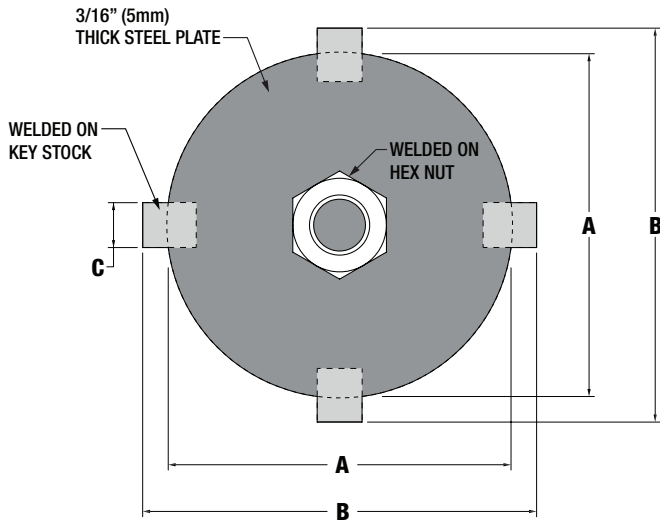
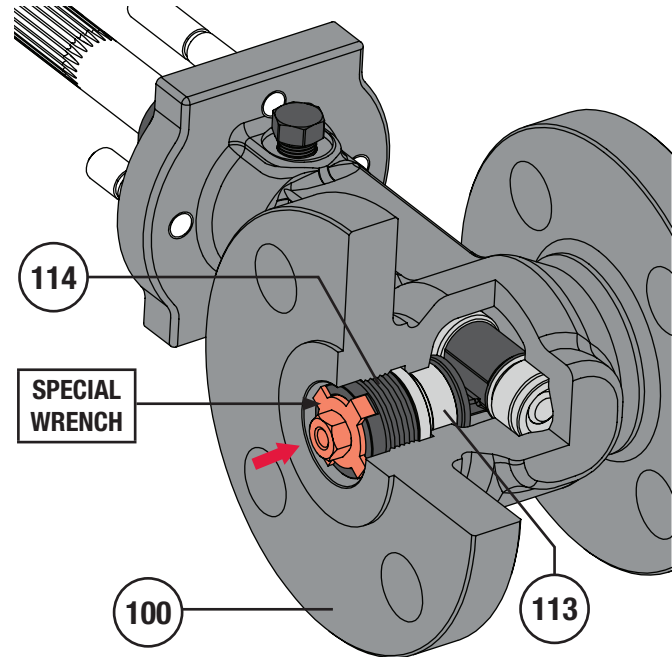

Figure 28 Seat Ring Retainer Wrench Diagram
Figure 29 Seat Ring Retainer Wrench Placement
- 2 It is recommended that a special wrench be constructed to remove the seat ring retainer (Key 114). Similarly, seat ring installation will also require this wrench. Refer to Figure 28 and Table 5 for wrench construction dimensions.
- 3 Using the seat ring retainer wrench (Figure 28), loosen and then remove the seat ring retainer (Key 114) by rotating it counter-clockwise. Refer to Figures 29 & 30.